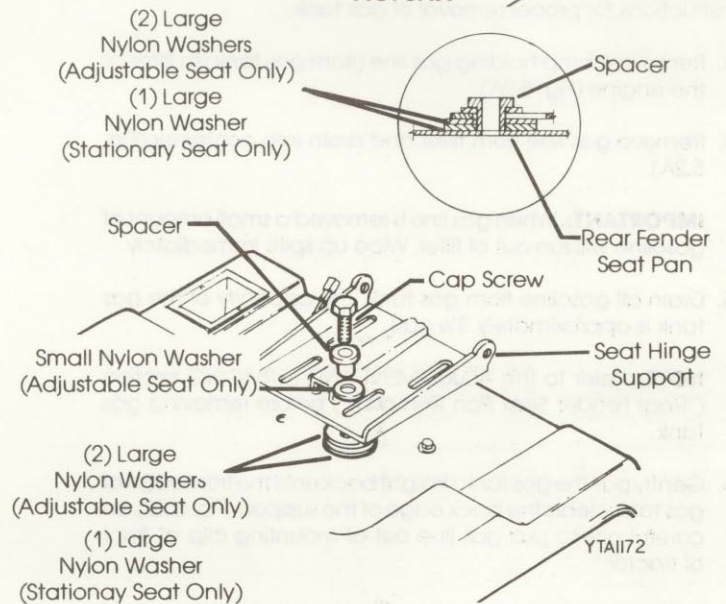

FIG. 5.1B
4. Remove the seat hinge support from the rear fender seat pan (Fig. 5.1B). Remove all four cap screws, spacers and washers.